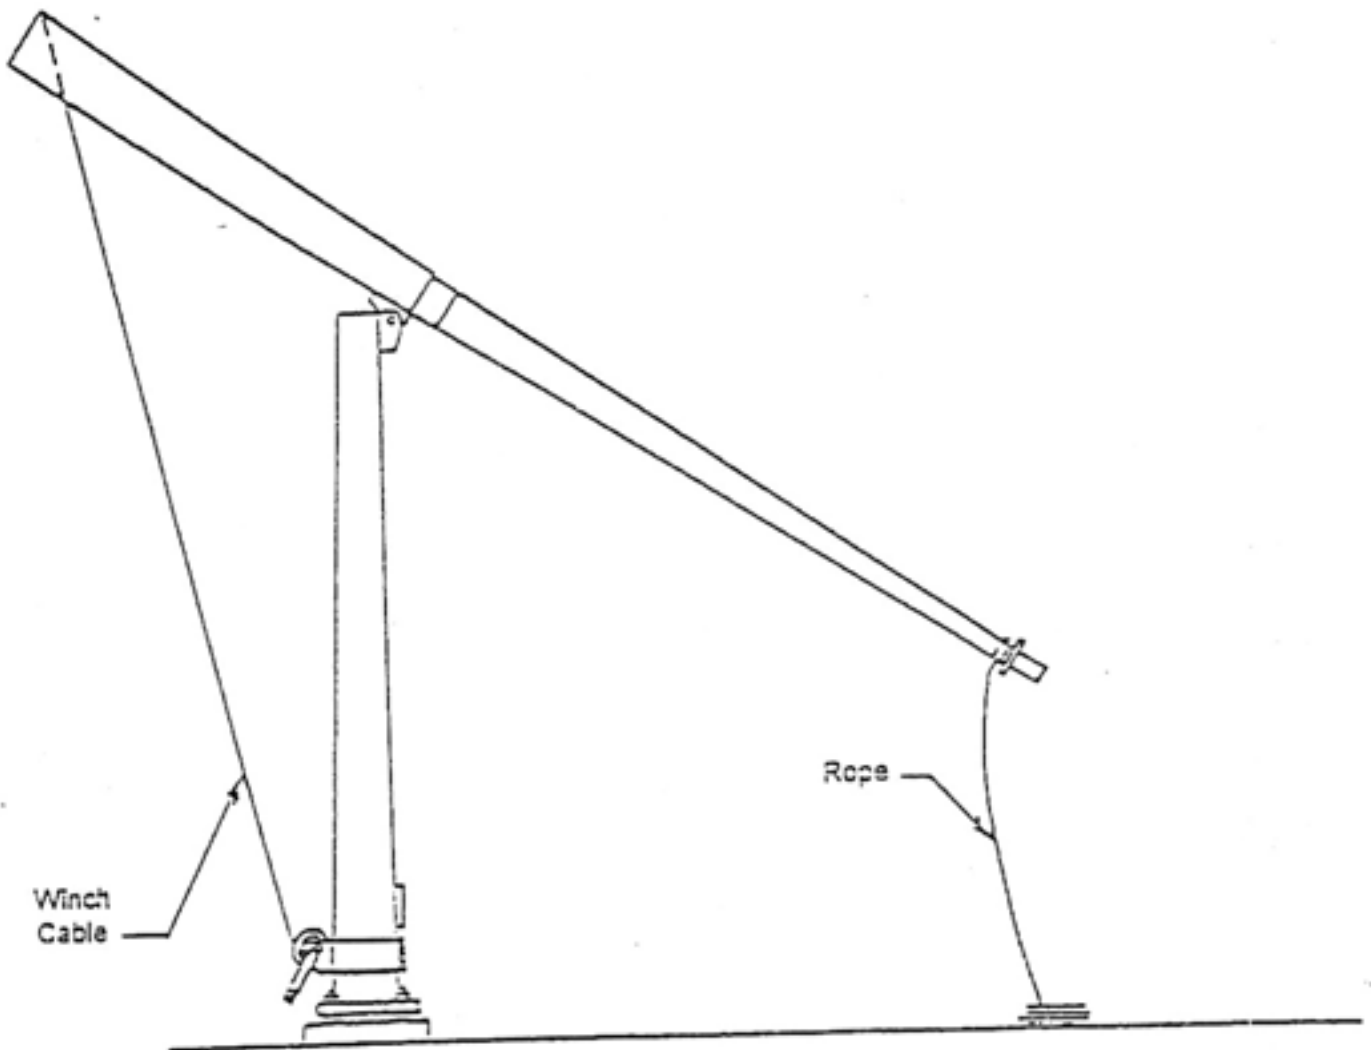

FIGURE 7
13. Pull on rope at top of pole while releasing cable from winch (FIG. 7). **CAUTION:** to prevent damage to the pole the cable must be kept taut when raising or lowering the pole.